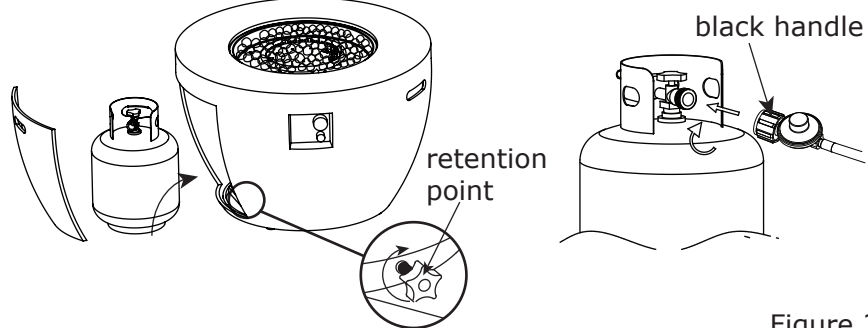

Figure 3
3. Open the door. Place the gas cylinder into the gas cylinder support and connect the regulator by turning the black handle clockwise to tighten. To remove the regulator, turn the black handle counter-clockwise. Secure the gas cylinder by tightening clockwise the retention point found on gas cylinder support, so that the gas cylinder cannot move from side to side or fall down. The knob on the control panel is turned all the way to the "OFF" position when the fire pit is NOT in use (see Figure 3).